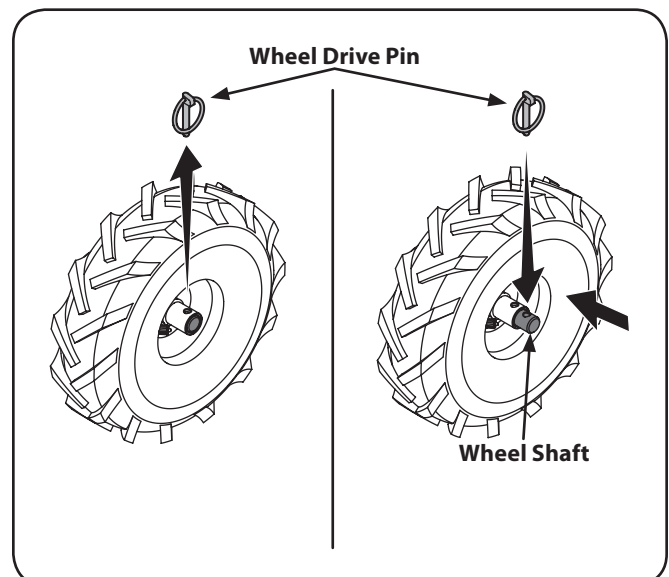

Figure 3-5
- Remove the wheel drive pin from the wheel hub and wheel shaft. See Figure 3-5.
- Slide the wheel fully inward on the wheel shaft. Reinstall the wheel drive pin through the wheel shaft only (not through the wheel hub). See Figure 3-5. The wheel should now spin freely (freewheel) on the wheel shaft. Repeat with the other wheel.